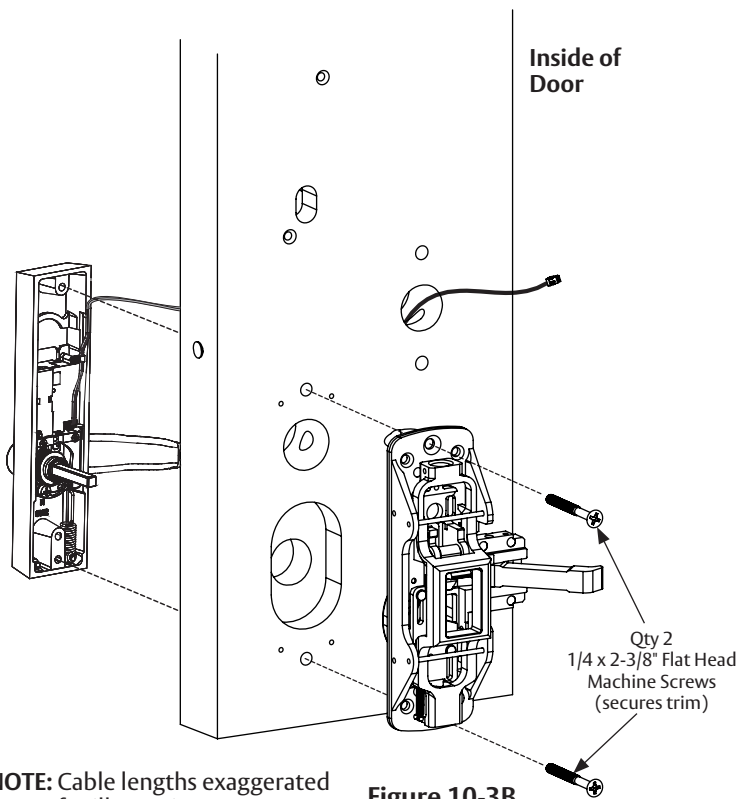

Figure 10-3B
4. Position chassis carefully onto the inner case assembly from inside of door. Feed wires up through the routed channel as shown (Figure 10-3B).